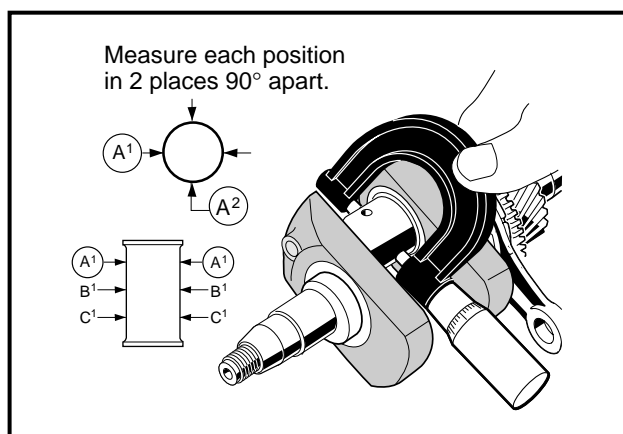

Figure 13-84 Measure Connecting Rod Journal
4. Using a micrometer, measure the connecting rod journal at several points along its length (**Figure 13-84, Page 13-39**).